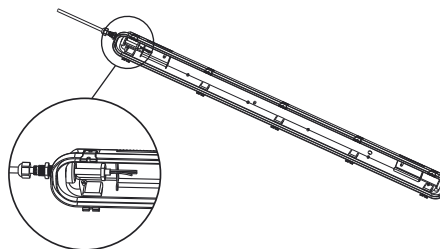

Figure 5
5. For electrical power entry, unscrew the cord grip and remove from housing. Insert power cord (SJOW 18AWG) through cord grip and into the fixture so that connections can be made at the LED driver compartment. Tighten cord grip to housing to secure from water and dust intrusion. (Figure 5)